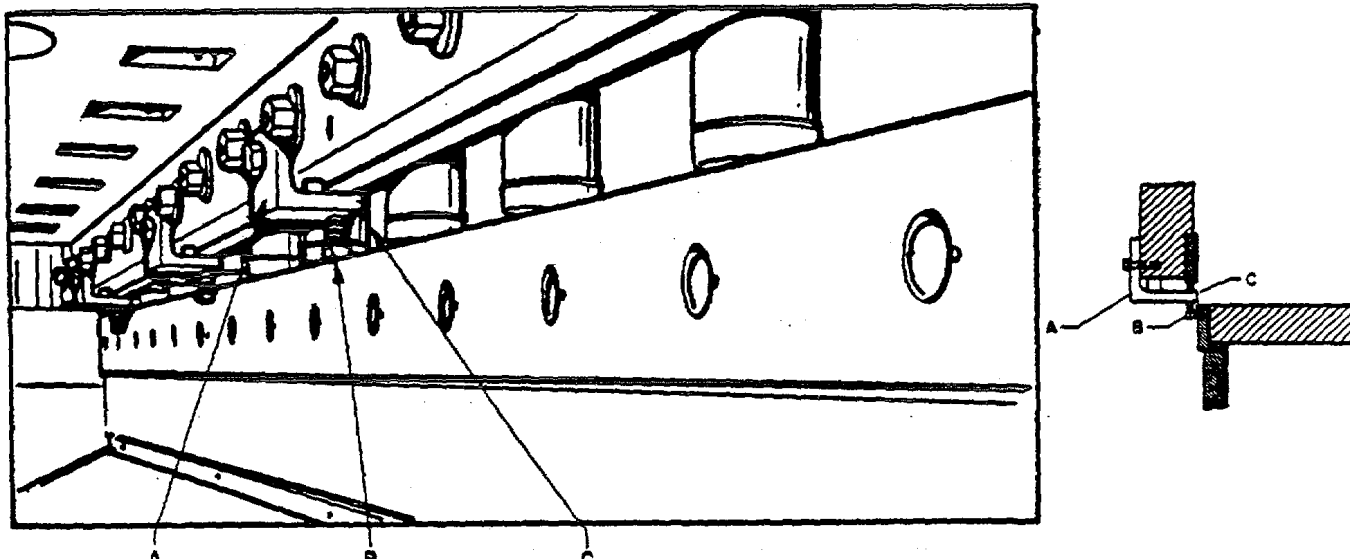

Figure 16. Blade Changing Jigs
To make maintenance easier and safer, a set of Blade Changing Jigs is furnished for use in removing or installing the upper blade. With these attachments (Figure 16), it becomes easy and safe to remove or replace the upper blade. To remove the upper blade, proceed in the following manner:
- (1) Shut the machine down as described under SHUT-DOWN PROCEDURE.
- (2) Raise the finger guard; a small "T" shaped bolt in the center of the holddown bar will hold it out of the way, and remove left gap guard.
- (3) From the rear of the machine, install the Blade Changing Jigs "A" (Figure 16), using the bolts provided in the drilled and tapped holes located in the rear of the ram.